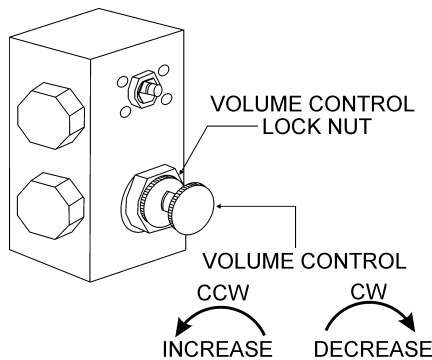

Figure 23. Volume Control
- Turn the Volume Control (Figure 23), **lock nut** counterclockwise (CCW) to release the volume control knob.